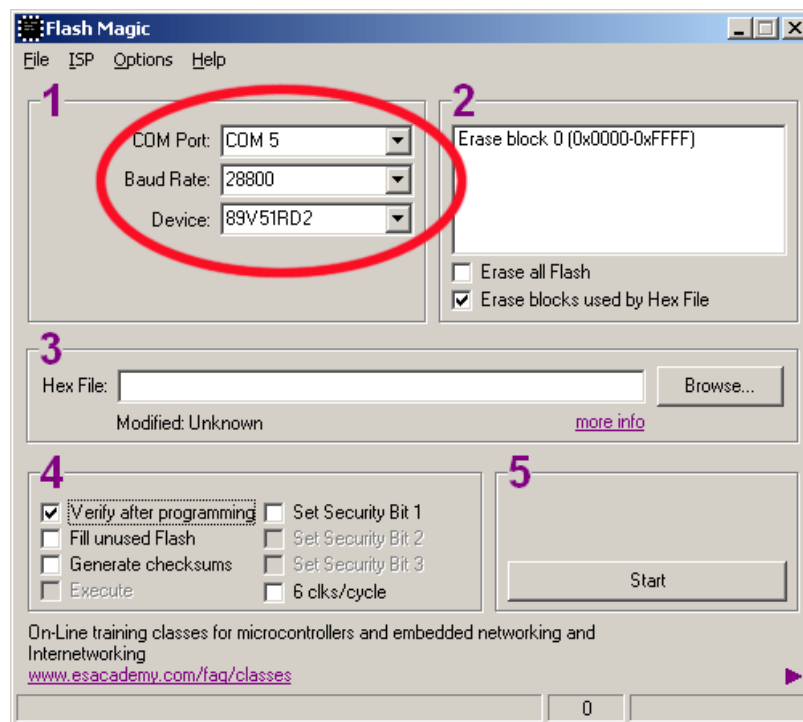

Figure7. Setting RS-232 connection parameter and device
2. Open Flash Magic program, and select COM Port, that's use to connect to the board, select Baud rate and Device to 89V51RD2 as shown in Figure 7